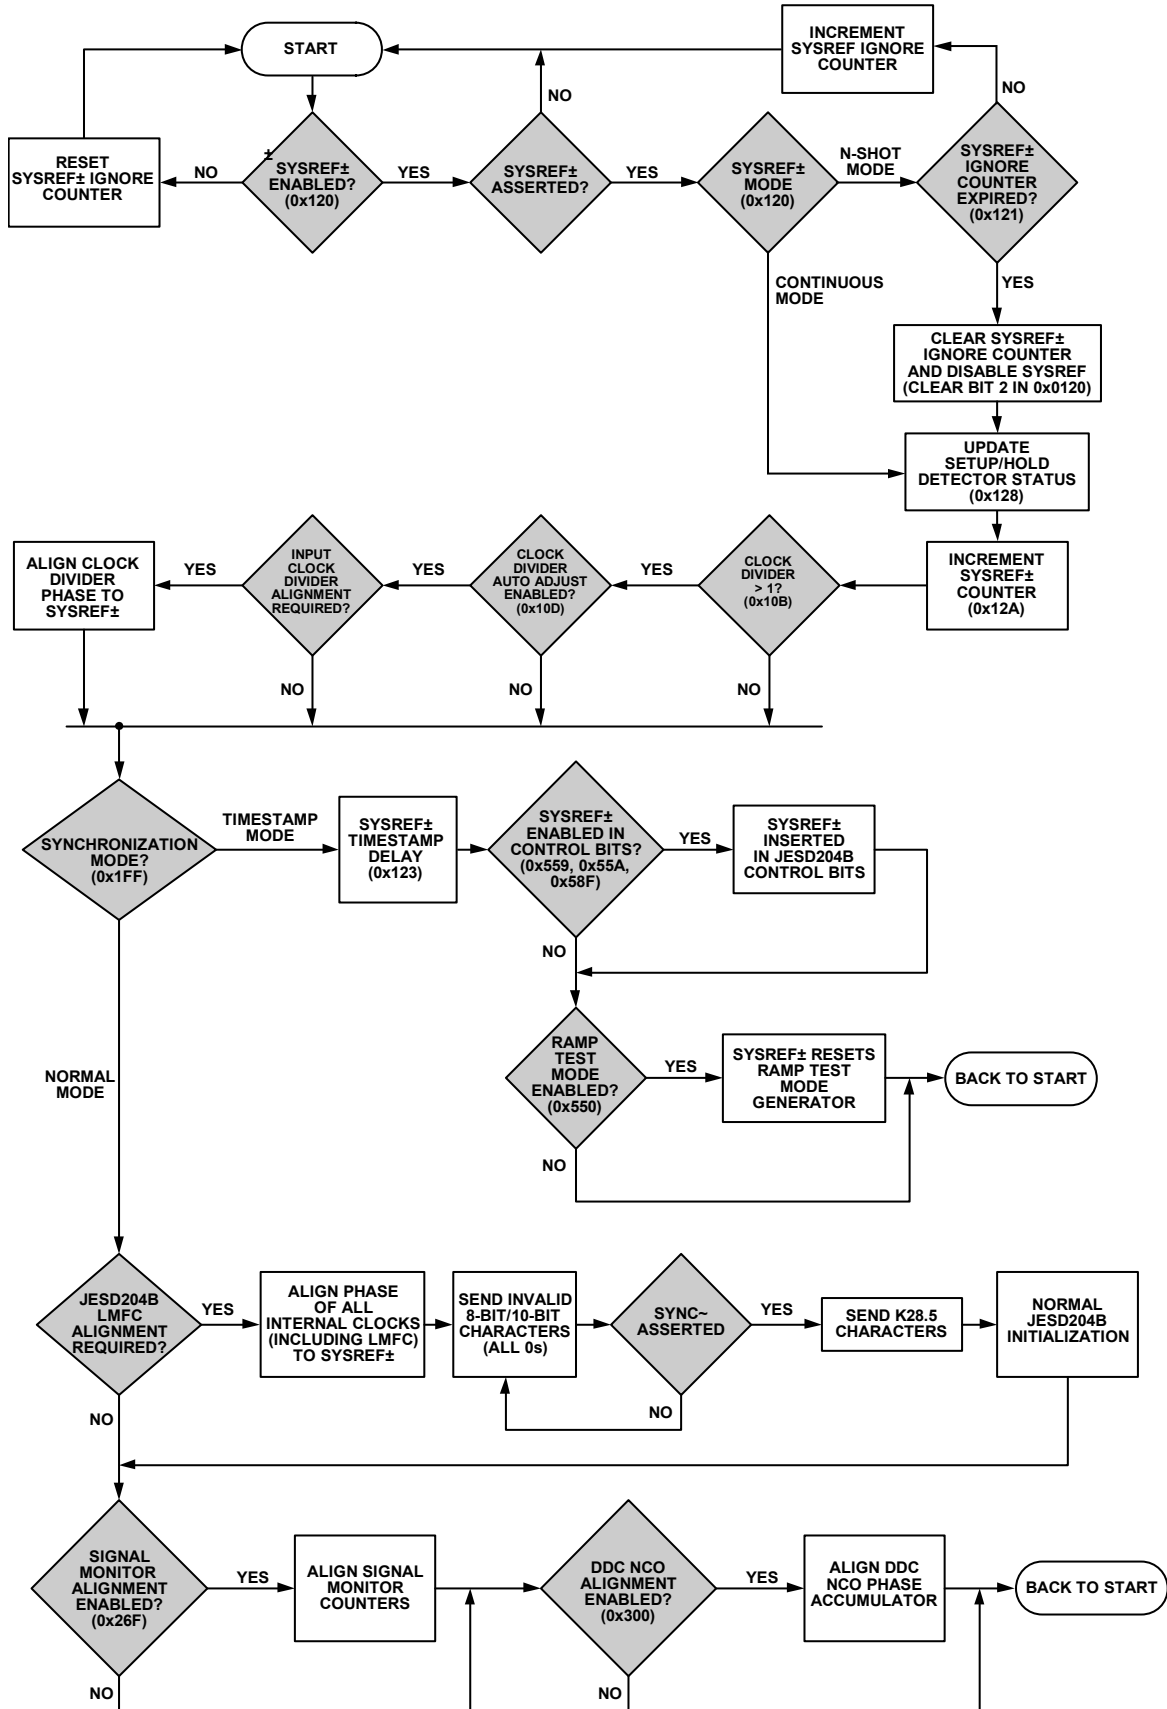

Figure 107. SYSREF± Capture Scenarios and Multichip Synchronization
The flowchart shown in Figure 107 describes the internal mechanism for multichip synchronization in the AD9234. There are two methods by which multichip synchronization can take place, as determined by the chip synchronization mode bit (Register 0x1FF, Bit 0). Both methods involve different SYSREF± signal applications.
The default state of the chip synchronization mode bit is 0, which configures the AD9234 for normal chip synchronization. The JESD204B standard specifies the use of SYSREF± to provide deterministic latency within a single link. This same concept, when applied to a system with multiple converters and logic devices, can also provide multichip synchronization. In Figure 107, this is referred to as normal mode. Following the process outlined in Figure 107 ensures the AD9234 is configured appropriately. Consult the respective ASIC or FPGA user intellectual property (IP) guide to ensure the JESD204B receivers are configured appropriately.